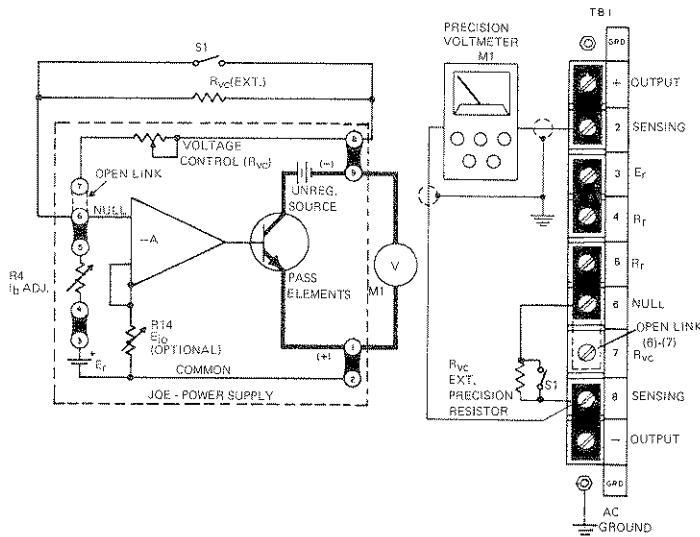

FIG. 3-5 CONNECTIONS FOR PRECISION PROGRAMMING RATIO ADJUSTMENT
3-16 PROCEDURE, PRECISION PROGRAMMING RATIO ADJUSTMENT (Refer to FIG. 3-5)
- b) Connect calibration set-up as shown in FIG. 3-5 and connect the JOE power supply to the AC power line.